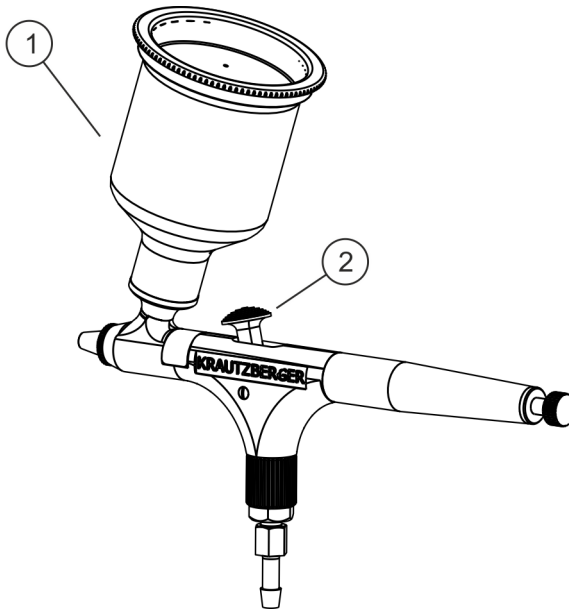

Fig. 6: Cleaning the hand-held spray gun
3. Fill solvent into the fluid cup (Fig. 6/1).
Start spraying process by activating the pull lever (Fig. 6/2).
8. End the spraying process by releasing the pull lever (Fig. 6/2).
11. ► Blow out the cleaning product remains by briefly activating the pull lever (Fig. 6/2).